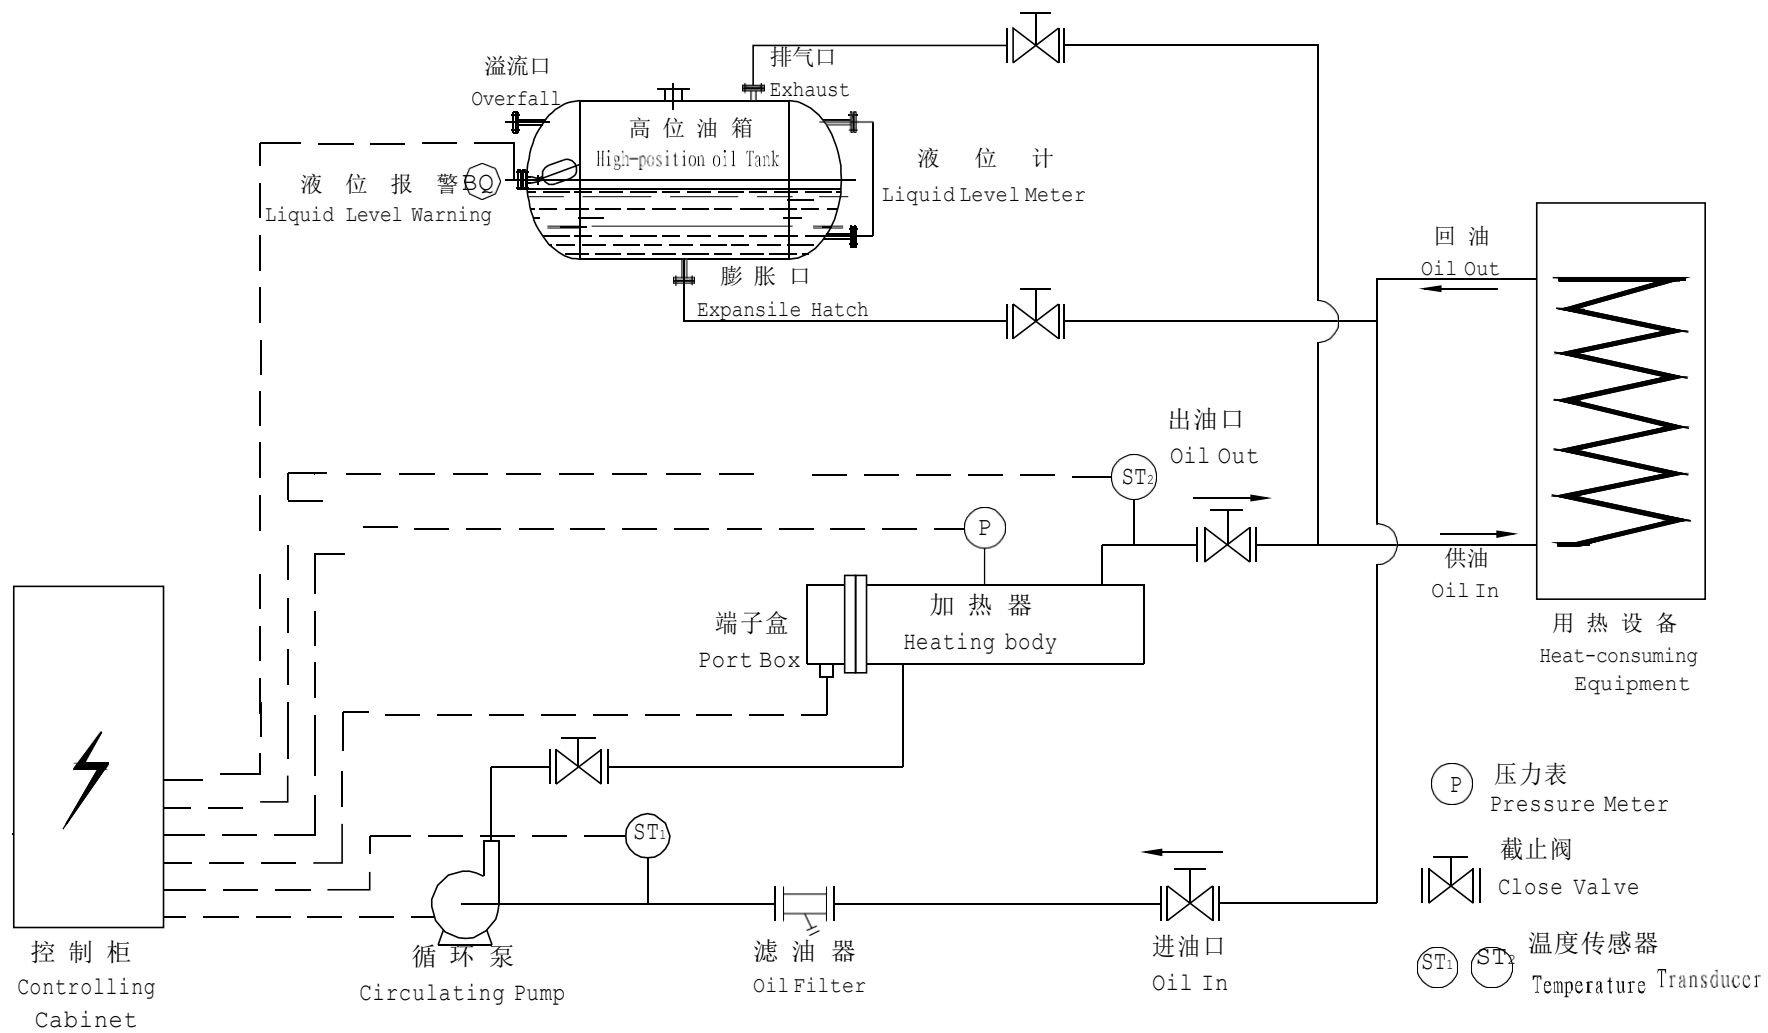

Figure 1. GYD series thermal oil heater example of heating system circulation
## **3. GYD series thermal oil heater example of heating system circulation (see attached figure 1)**
**4.2.3** Thermal oil heater system piping refers to the GYD series thermal oil heater heating system cycle example (see Figure 1) for construction. The piping layout of the system should adopt the low-in and high-out method, and minimize the bending of the pipeline to ensure that the pipeline is unobstructed. The diameter of various pipelines in the system should be as consistent as possible with the diameter of the thermal oil inlet and outlet of the thermal oil heater host. Insulation measures should be taken, but insulation material should not be added at the flange connection. It is recommended to install a short-circuit cycle for a heat-using system with a temperature higher than 120 ° C, and an oil pump is recommended for a heat-using environment where it is not easy to stop heating midway.